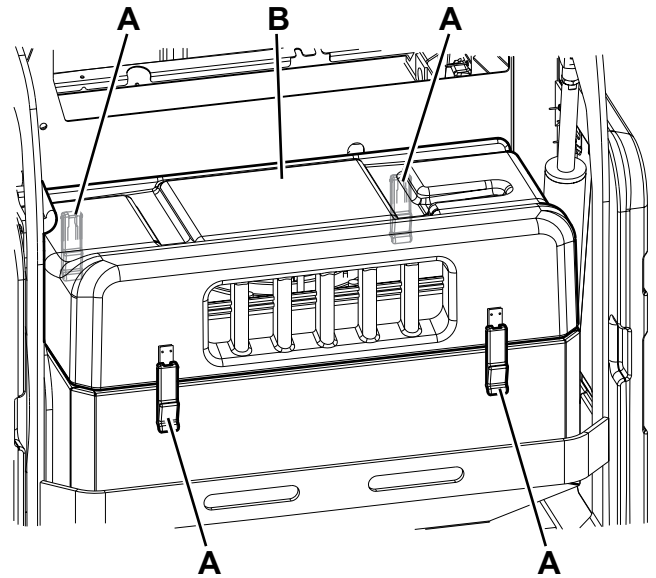

Figure 13
1. Drive the machine on a level ground, engage the parking brake and turn the ignition key (61) to "0".
2. Open the battery compartment hood (18) with the handle (41) and fasten it with the support rod (52), then disconnect the battery connector (45).
3. Disconnect the vacuum system motor connector (53).
4. Release the fasteners (A, Fig. 13) and remove the vacuum system cover (B).